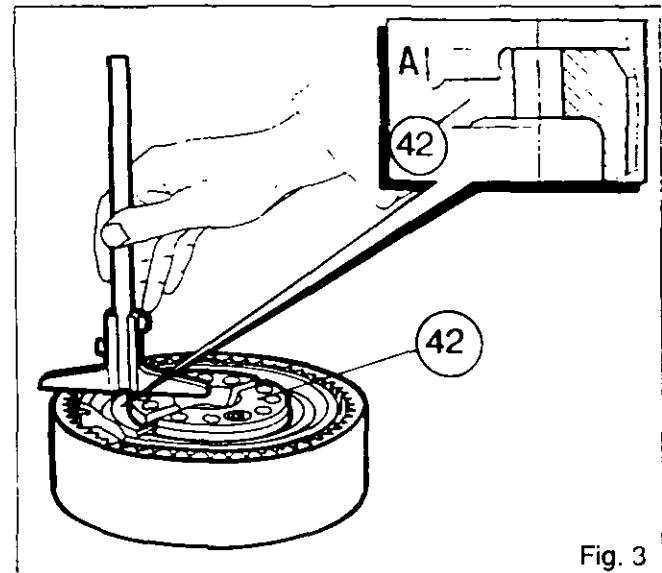
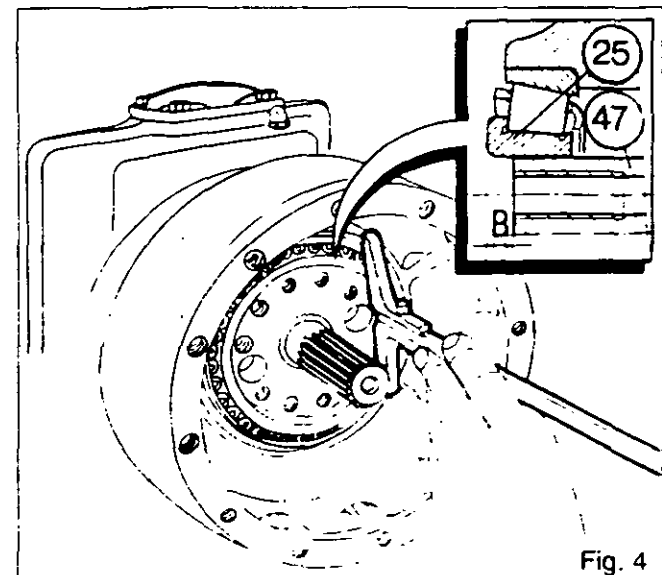

Fig. 3
Fig. 4
- 36. If the bearing cone (18) and the bearing cups (19) and (23) are to be replaced, push the bearing cone in the swivel housing and the bearing cups in the wheel hub until they meet the shoulder. Smear the outer periphery of the oil seal (45) with Loctite 542. Push against the shoulder without deforming it.
- 37. Fit the wheel hub (22) on the swivel housing (47). Fit the bearing cone (25) supported by the bearing cup (23) to determine shims required to obtain : **P2 = + 0.05 mm.**
- 38. Using a depth gauge, check the height "A" of the ring gear carrier (42) (Fig. 3) and the protrusion "B" of the bearing cone (25) out from the housing (47) (Fig. 4).